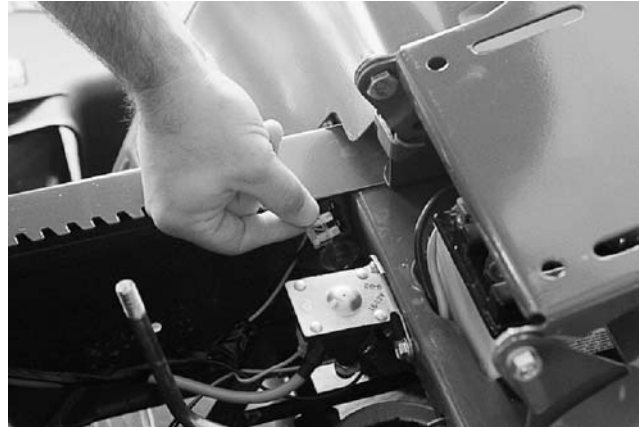

Figure 3-17.
- a. Check for a tripped circuit breaker or blown fuse. Circuit breakers seldom open or fuses blow without a reason. The problem must be corrected. See Figure 3-17.